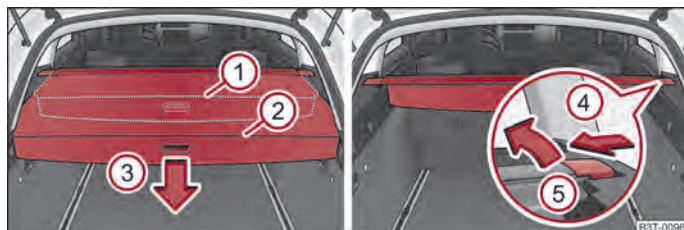

Fig. 73 Luggage compartment: foldable luggage compartment cover/removing foldable luggage compartment cover
- Pull the foldable luggage compartment cover as far as the stop into the secured position ② ⇒ fig. 73.
- Press the cover in the handle area in direction of arrow ③ ⇒ fig. 73, the cover rolls up automatically into position ①. The cover is fully rolled up by pressing once again.
- The fully folded luggage compartment cover can be removed to transport bulky goods by pressing on the side of the cross rod in direction of arrow ④ ⇒ fig. 73 and taking it out by moving it in direction of arrow ⑤.
- Open the boot lid/luggage compartment door. The foldable luggage compartment cover rolls up automatically in the position ① to ⇒ fig. 73.
- The cover rolls up fully by pressing the cover in the handle area in direction of arrow ③.